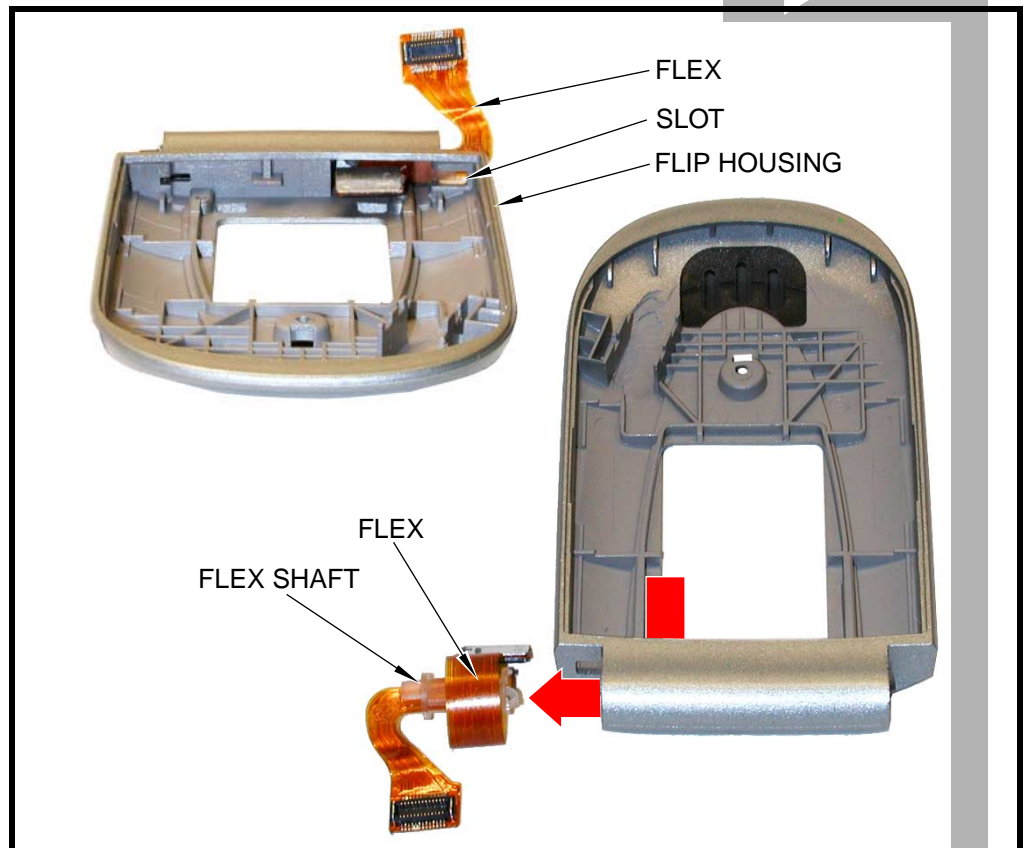

Figure 26. Removing the flex assembly
2. Carefully route the flex through the slot in the flip housing and remove completely as shown in Figure 26.